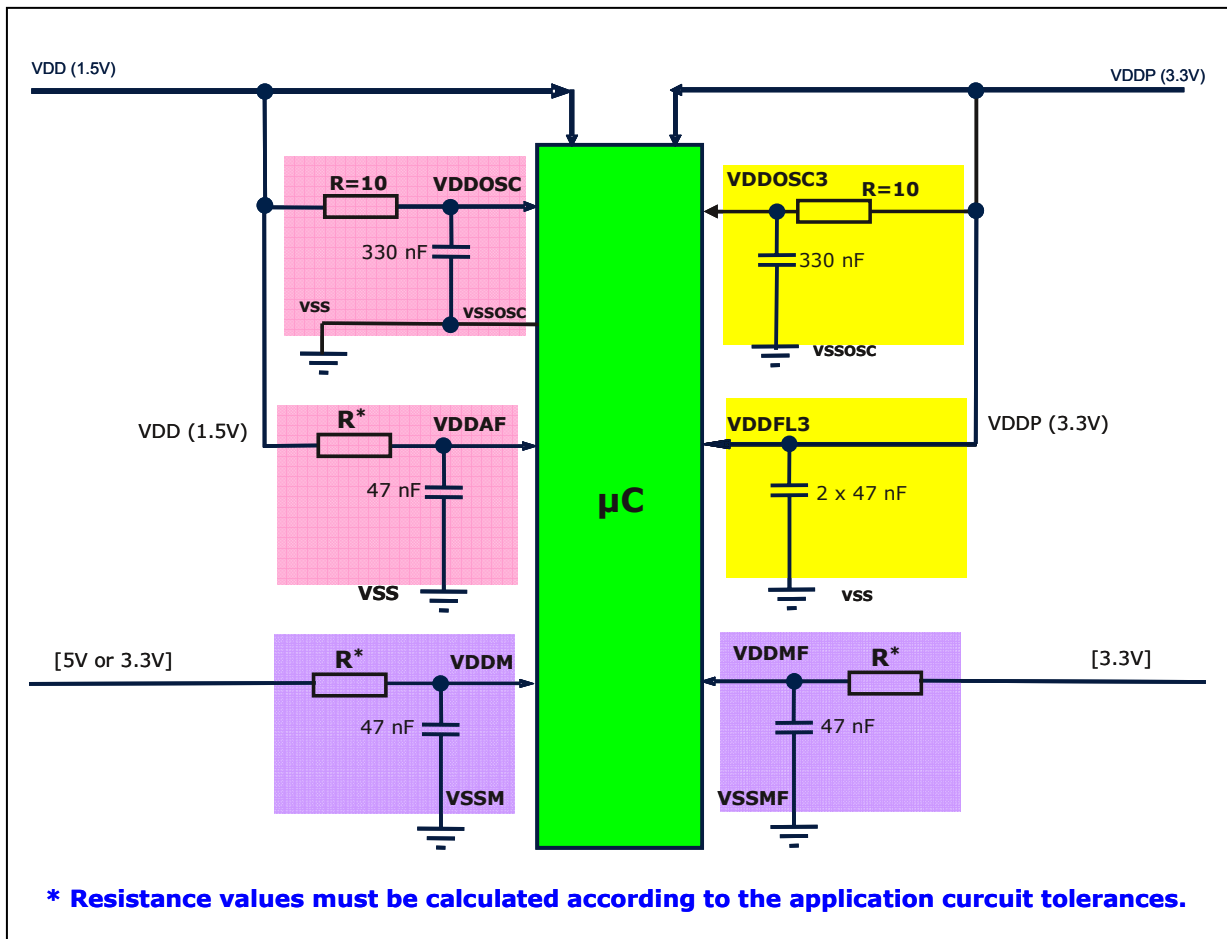

Figure 2 Filtering of VDDOSC, VDDOSC3, VDDFL3, VDDM, VDDMF, VDDAF supply pins
7	Figure2 changed
- RC Filters can be inserted in the supply paths at the regulator output and at the branchings to other module supply pins like VDDOSC, VDDOSC3, VDDFL3, VDDM, VDDM, and VDDAF. Using inductance or ferrite beads (5 – 10  $\mu$ H) instead of the resistors can improve the EME behaviour of the circuit and reduce the radiation up to ~10dB $\mu$ V on the related supply net. (See Figure 2).